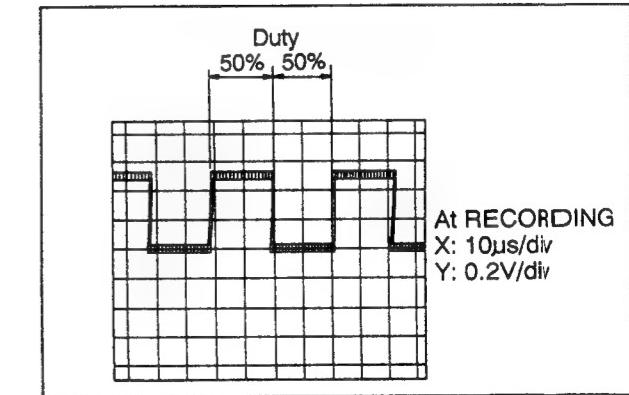

Fig. 3
2. Load a **DCC blank tape (RFKZ0033)** into the unit under test and put the unit **IN REC mode**. Verify that a continuous **47Hz square wave with a 50 percent duty ratio** is observed on the scope (see Fig. 3). This is the normal result. Also verify that the same waveform is observed when a prerecorded ACC tape is played.